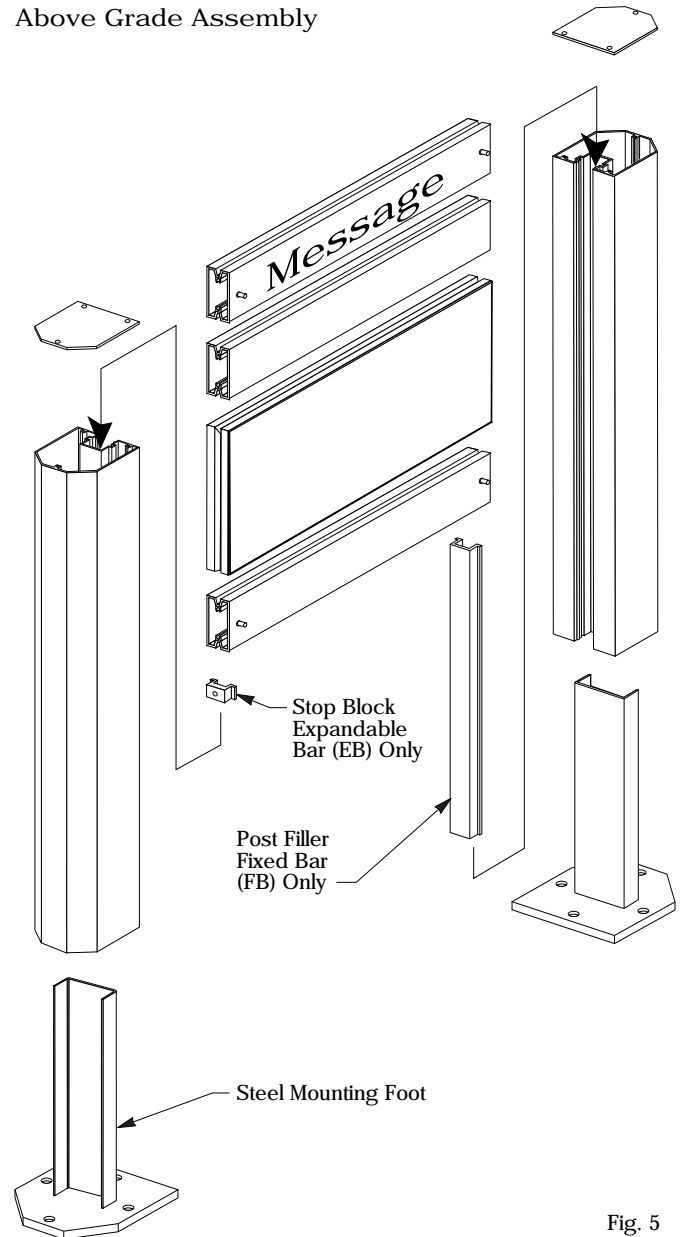

Fig. 5
6. Beginning with bottom message, align retainer (roll) pins with post pocket and slide bars and/or panels into place. (Fig. 5) Insert remaining bars and/or panels into post pockets. If optional Decorative Trim or Interlocking Spacers are used, insert them in the proper sequence.
11. Insert Post Fillers into post pockets. (Fig. 5)
12. Insert bars and/or panels into post pockets, aligning retainer (roll) pins as required. (Fig. 5) If Interlocking Spacers or Decorative Trim is used, insert them in the proper sequence. The top display component should fit flush with top of post.